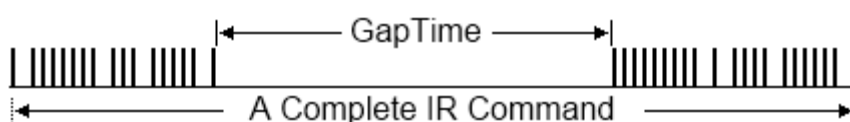

Figure 3-5 A complete IR Command with a gat time
- [7] **GapTime** : The max interval time in the IR signals (figure 3-5). For example: